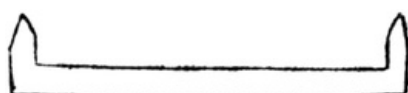

FIG. 150
**Cork Boats.** Besides the submarine described in Chapter VI, many other boats can be made from corks, all of which will float well. The corks are joined together by pieces of wire passing through the middle. For the keel cut a narrow strip of lead (not more than 1/4 inch wide); point both ends, bend them up at right angles as in Fig. 150; make slits in the corks and push in the pointed ends of the lead. The keel is made more secure by driving pins or thin nails through the lead and the corks. The keel also helps to hold the corks